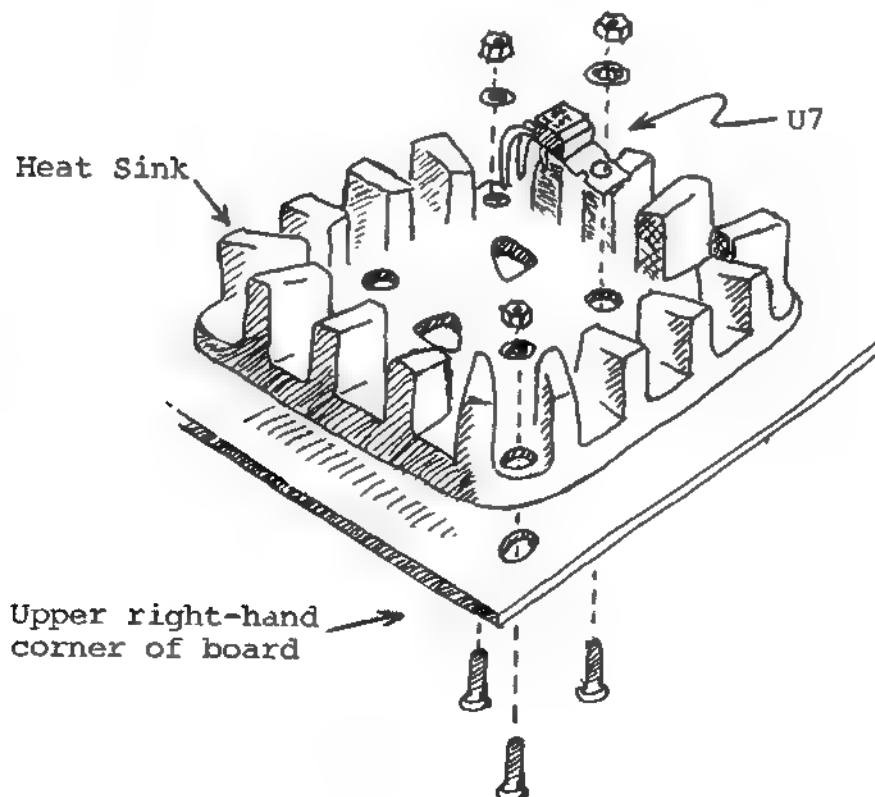

Figure 2-2. Heat sink and U7 installation.
- () Step 1. Install heat sink. Position the large, black heat sink (flat side to board) over the square foil area in the upper right corner. Orient the sink so that the two triangles of mounting holes in the board are under the two triangular cutouts in the sink. Using two 6-32 screws, lockwashers and nuts, attach heat sink to board. Insert the screws from back (solder) side of board. (See Figure 2-2.)
- () Step 2. Install U7 (7805UC or LM340T-5.0). Position U7 over left-hand cutout in heat sink and observe how the leads must be bent to fit the mounting holes. Note that the center lead (3) must be bent downwards at a point approximately 0.2 inches further from the body than the other two leads. Bend the leads so that no contact is made with the heat sink when U7 is flat against the sink and its mounting hole is aligned with the hole in the sink. Fasten U7 to sink using a 6-32 screw, lockwasher and nut. Insert screw from back (solder) side of board. Solder and trim leads. (Refer to Figure 2-2.)